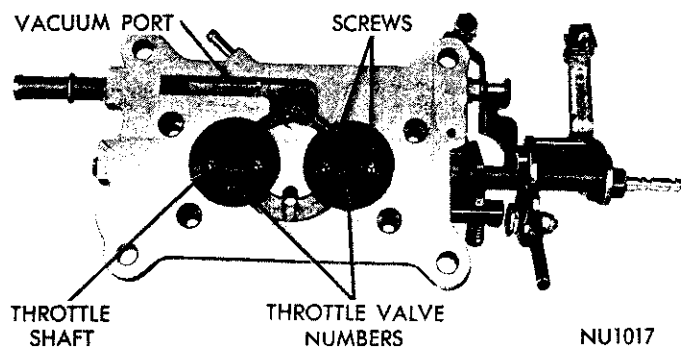

Fig. 18—Throttle Valves Installed
- (1) Slide new valves into position on throttle shaft, with the valve number on the bottom or mounting flange side, and away from vacuum port (Fig. 18).
- (2) Install new valve screws but do not tighten.
- (3) Hold valves in place with fingers. (Fingers pressing on high side of valves.)
- (4) Tap valves lightly with a screwdriver to center